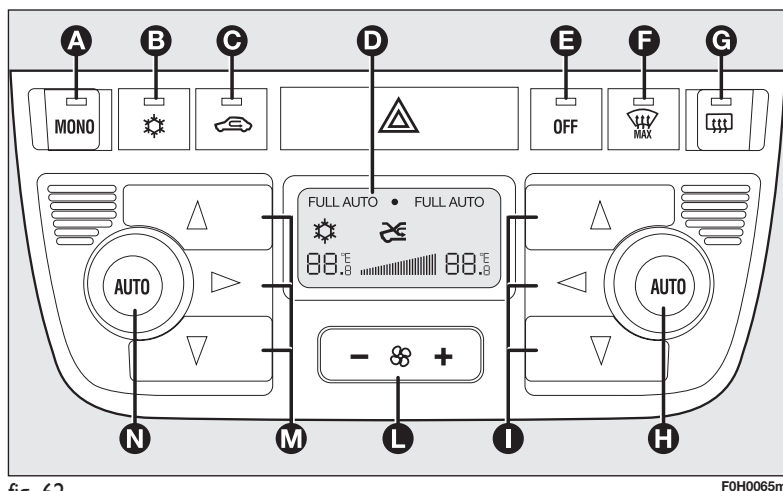

fig. 62
CONTROLS fig. 62
Press **MONO** to automatically align air temperature and distribution settings in the front passenger area to those of in the driver's area and to therefore set both zones by turning the knob on driver's side only. This function is used to adjust the temperature in the entire passenger compartment in presence of the driver only. To go back to separate air and temperature distribution in the two zones of the passenger compartment, simply turn the knobs **H-fig. 62** or press **MONO A-fig. 62** when the LED on the button is on.
- ☐ forced switching on (inside air recirculation always on), indicated by the turning off of the button led **C**-fig. 62 and symbol  on the display;